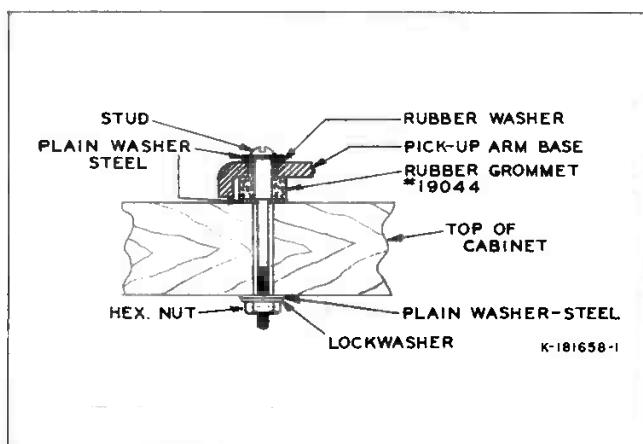

Figure 12—Pickup arm mounting details.
37. The pickup arm should be parallel to the record face and is so adjusted at the factory. Should this at any time not be the case, proceed as follows: Determine the amount of deviation from the parallel. Then disconnect the pickup leads from the terminal board and remove the pickup cable from the clamp above the terminal board. Remove the pickup arm assembly from the cabinet top. Remove the two machine screws ("A", figure 13). Pull out the two pins and remove the spacers at the pivot. Lift the pickup arm from the base casting. This exposes the upper fulcrum screw (see figure 13). Loosen the locknuts on both upper and lower fulcrum screws and adjust the screws to raise or lower the pivot casting as required. A complete turn of the screw produces a vertical motion of 1/32 inch. Retighten the locknuts so that the pivot casting does not bind and there is no side or end play in the bearings. Install the arm and cable in their former positions (see figure 12).